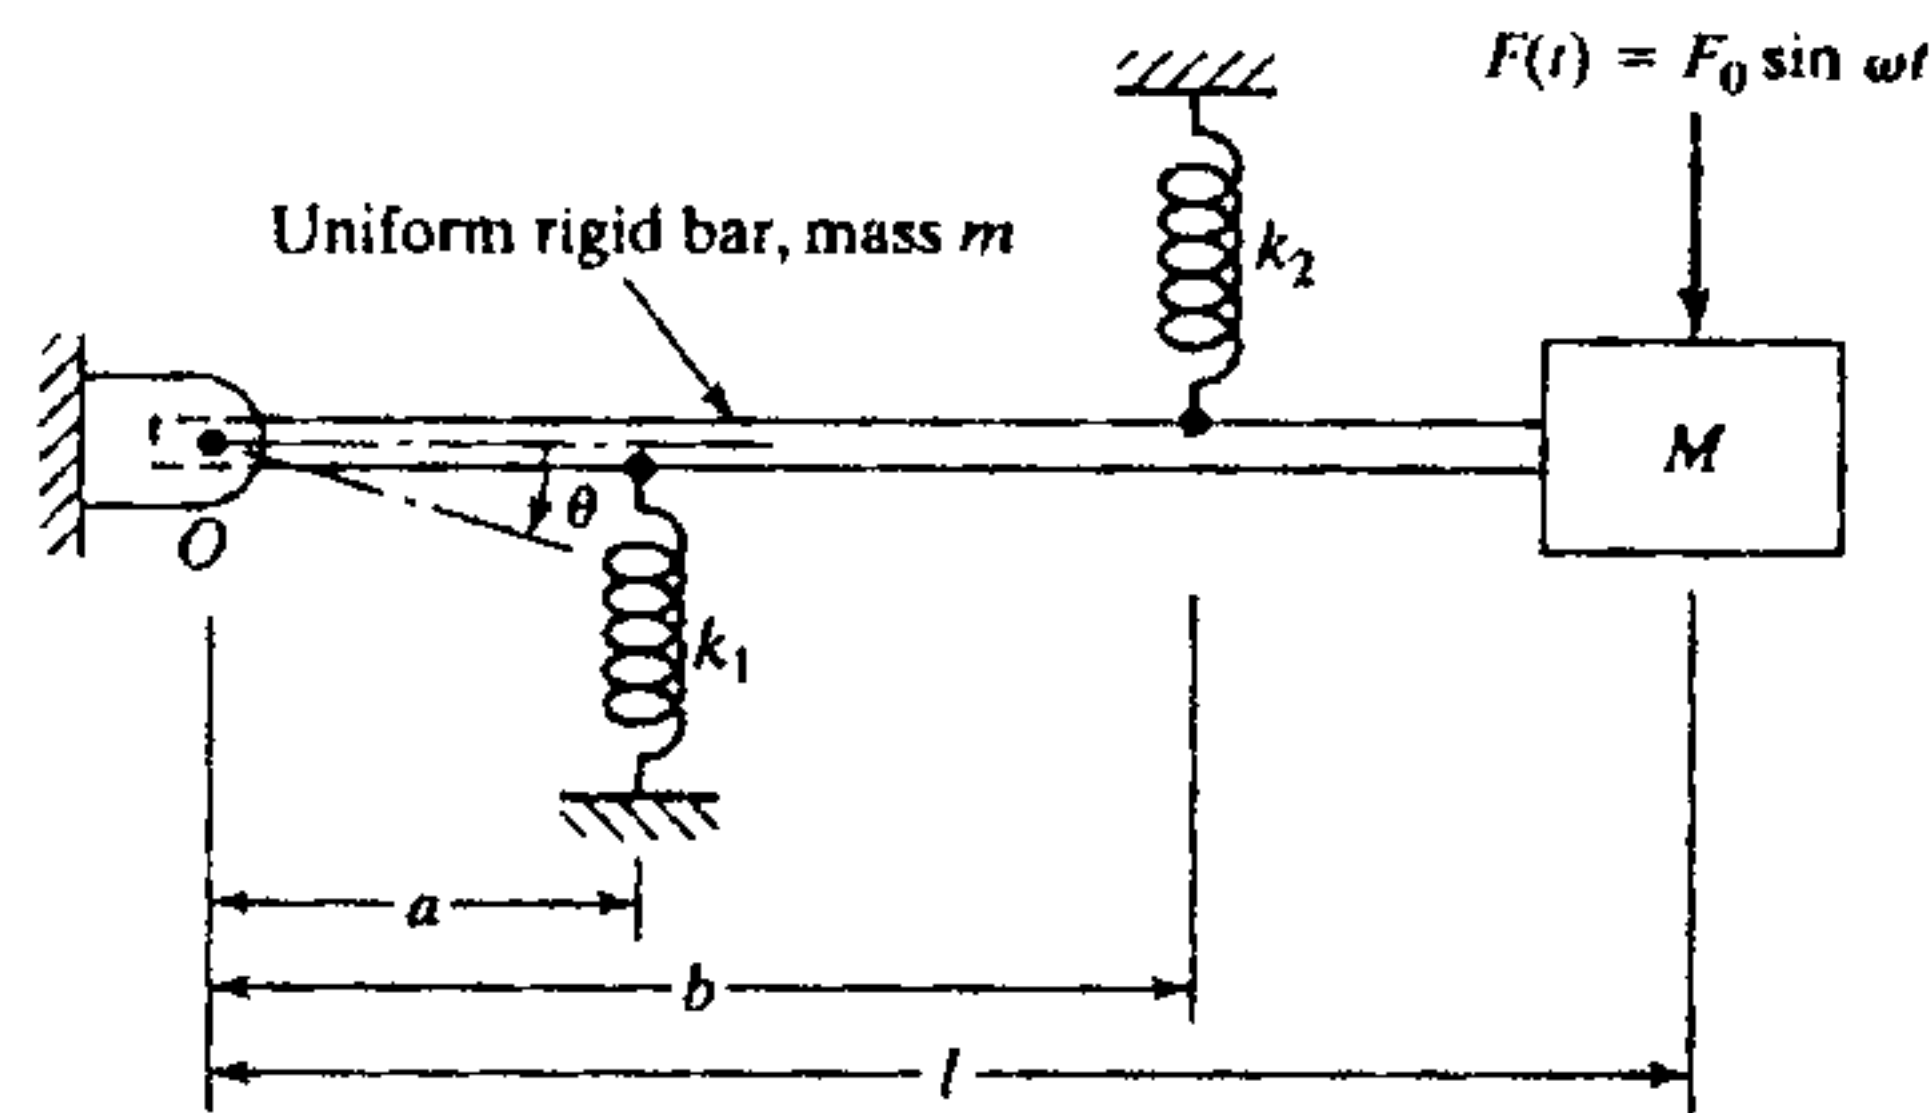

Fig 2
- 2) Derive the equation of motion and find the steady state response of the system shown in figure 2 for rotational motion about the hinge O for the following data: $k_1=k_2= 5000\text{N/m}$, $a=0.25\text{m}$, $b=0.5\text{m}$, $l=1\text{m}$, $M=50\text{kg}$, $m=10\text{kg}$, $F_0= 500\text{N}$, $\omega=100\text{rpm}$. 14M